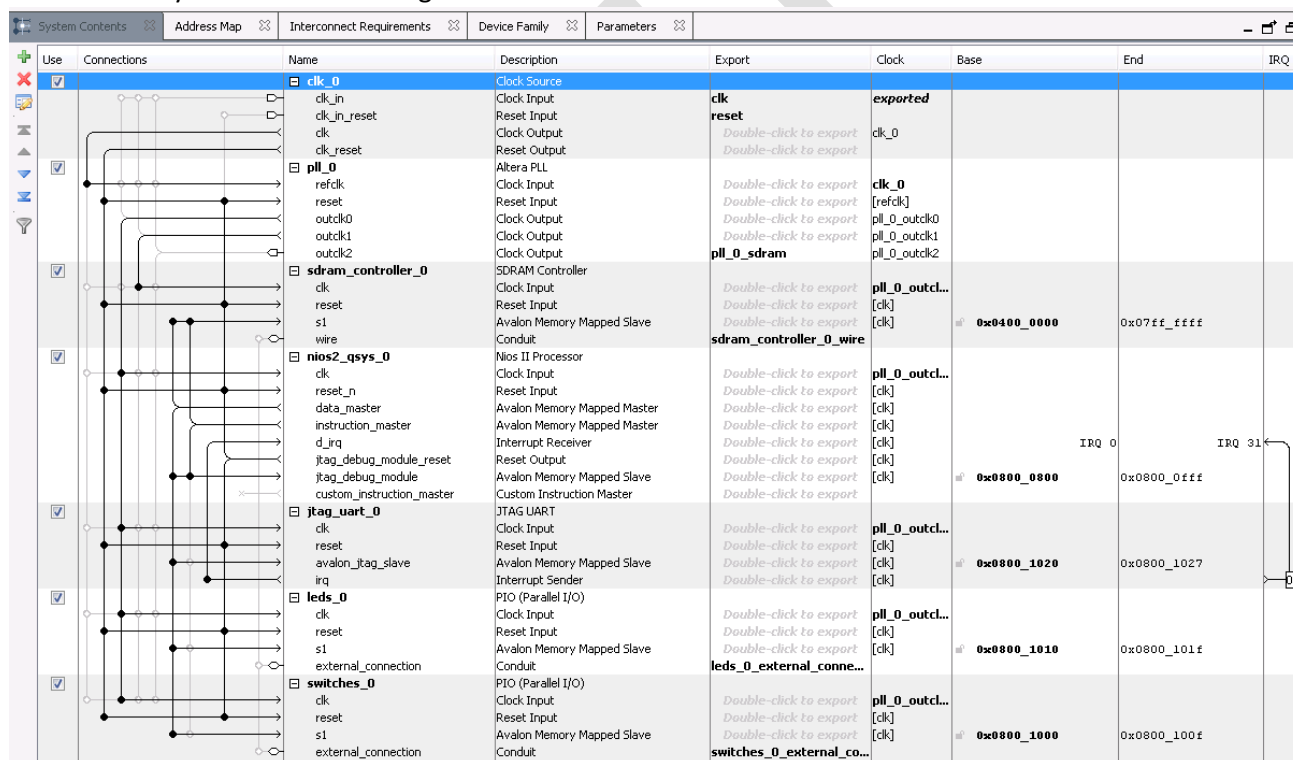

Figure 7-3. Adding LEDs and Switches to the System
13. Connect the system as shown in Figure 7-3 below: